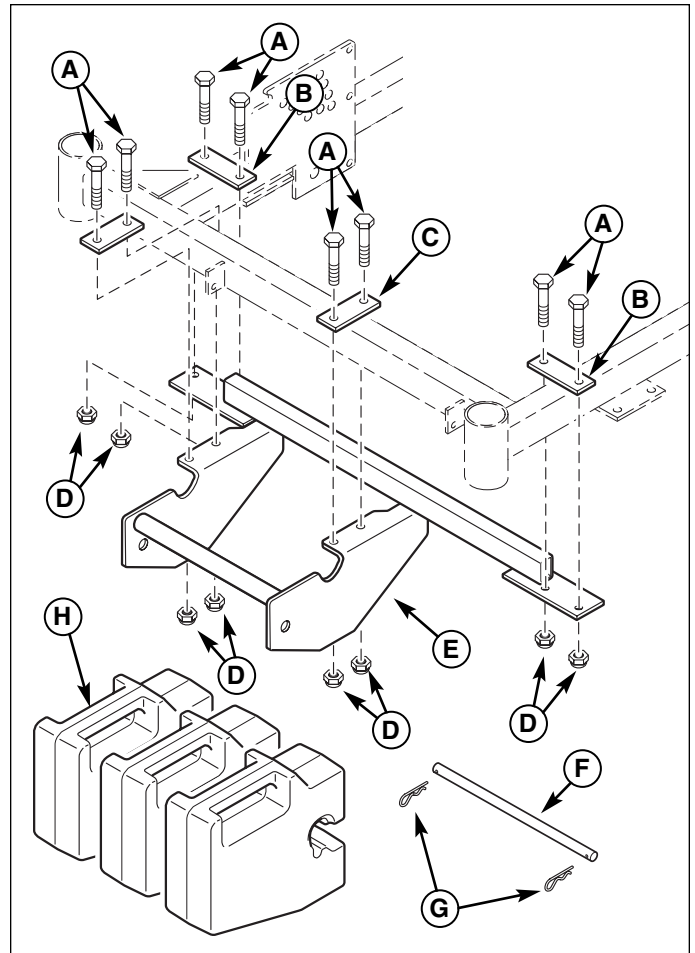

Figure 29. Install Weight Carrier
2. Install the weight carrier (E, Figure 29), mount plates (B & C) and fasten with the 3/8-16 x 3" bolts (A) and 3/8-16 nylon lock nuts (D). Tighten securely.
3. Install the counter weights (H) in the weight carrier and secure with the retaining pin (F) and hair pin clips (G).